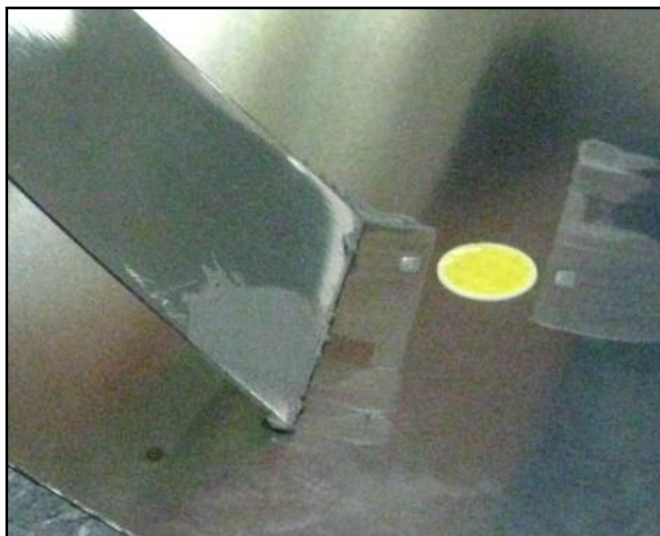

Figure 6: Application of solder paste using stencil and spatula
3. Apply the solder paste to the solder pads using a spatula or squeegee (Figure 6).